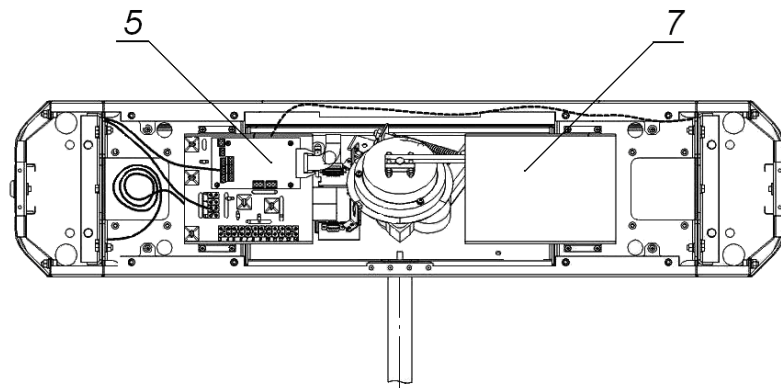

Fig. 12. Cable routing inside the TB-01.1 turnstile housing:
- 2 Make holes for anchor bolt sleeves for the turnstile housing installation (Fig. 11). Prepare a cable raceway for cables when cables are laid concealed under floor. Install and fix the turnstile housing only after all cables inside the turnstile housing and in electric raceways are laid. Cable routing inside the turnstile housing is shown in Fig. 12.
The turnstile design has the place designated for mounting of an ACS controller. The ACS controller is mounted on a bracket (7, Fig. 12). Maximum possible size of the mounted board is 160×150×35 mm.